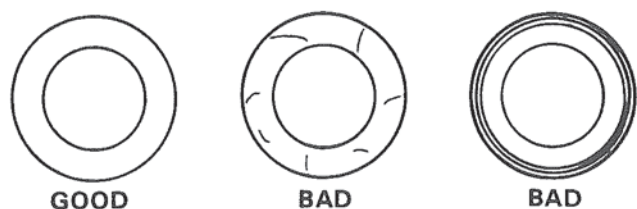

Figure 23. Valve Seat Conditions.
7. Inspect valve seat. Seating area must be even and smooth. Figure 23.